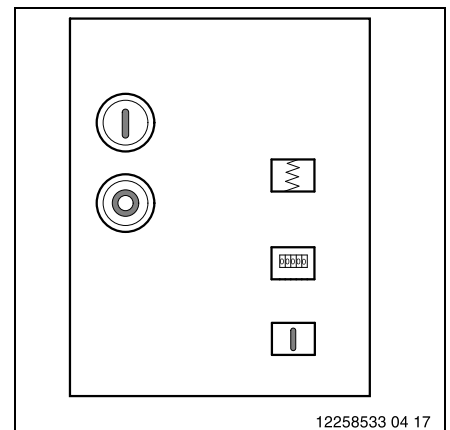

Fig. 53
**10** Switch position with circuit-breaker switched ON and relaxed spring accumulator (Fig. 53).